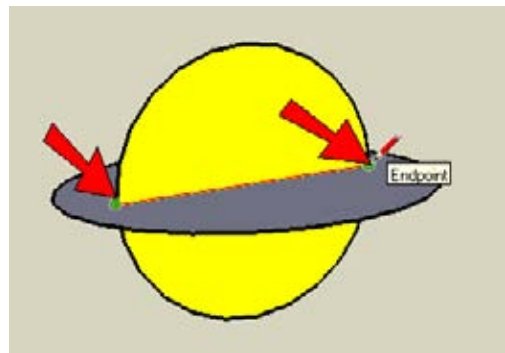

Figure 2-76
1. Make the same two circles as before, and use Line to divide the vertical circle in half (Figure 2-76).